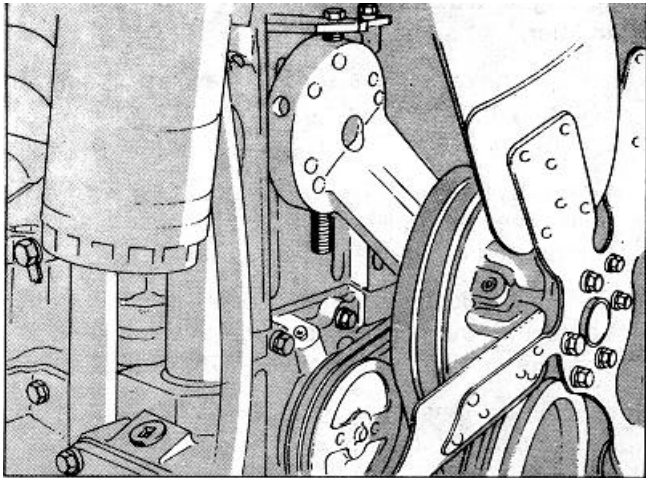

Fig. 2-5, (OM10161). Fan hub installation, NT-350 FFC
5. Tighten NH/NT Engines locknut to 400 to 450 ft-lbs [542 to 610 N m]; then back off 1/2 turn. Tighten the four 1/2 inch capscrews, Fig. 2-5, on NTC-350 FFC Engines to 75 to 85 ft-lbs [101 to 115 N.m].